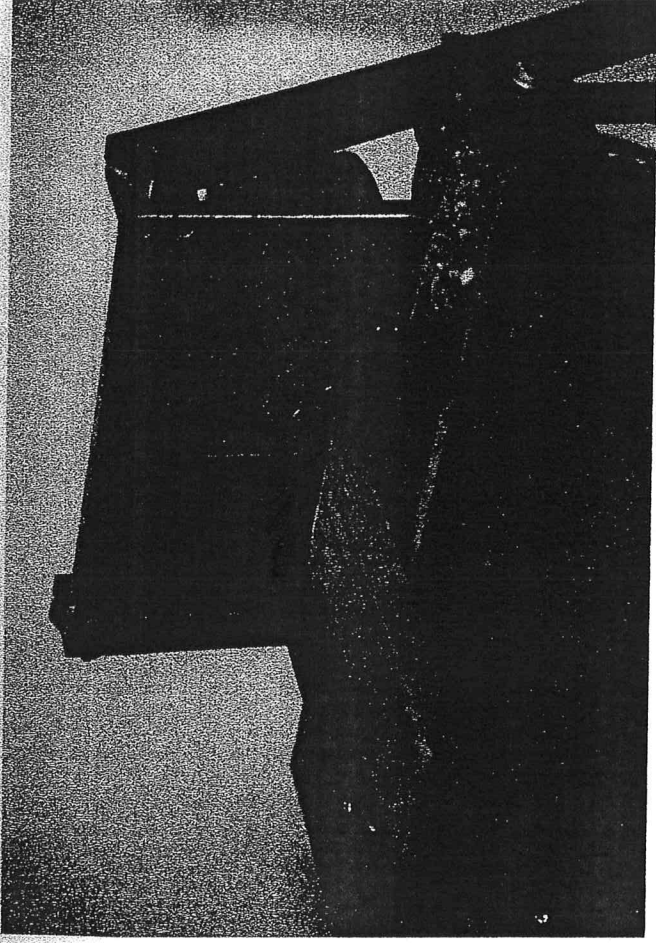

Fig. 21
3. Lower the table 3 1/2 turns. Cut the first side of the dovetail pins on both aprons. (fig. 21)